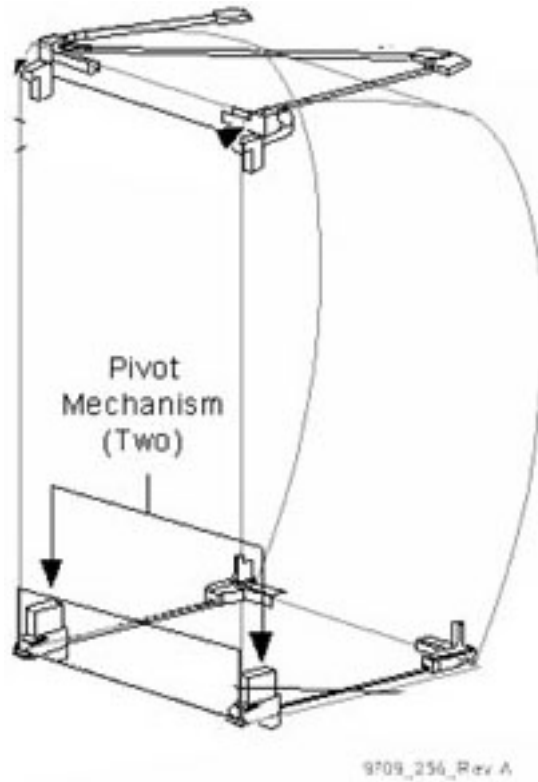
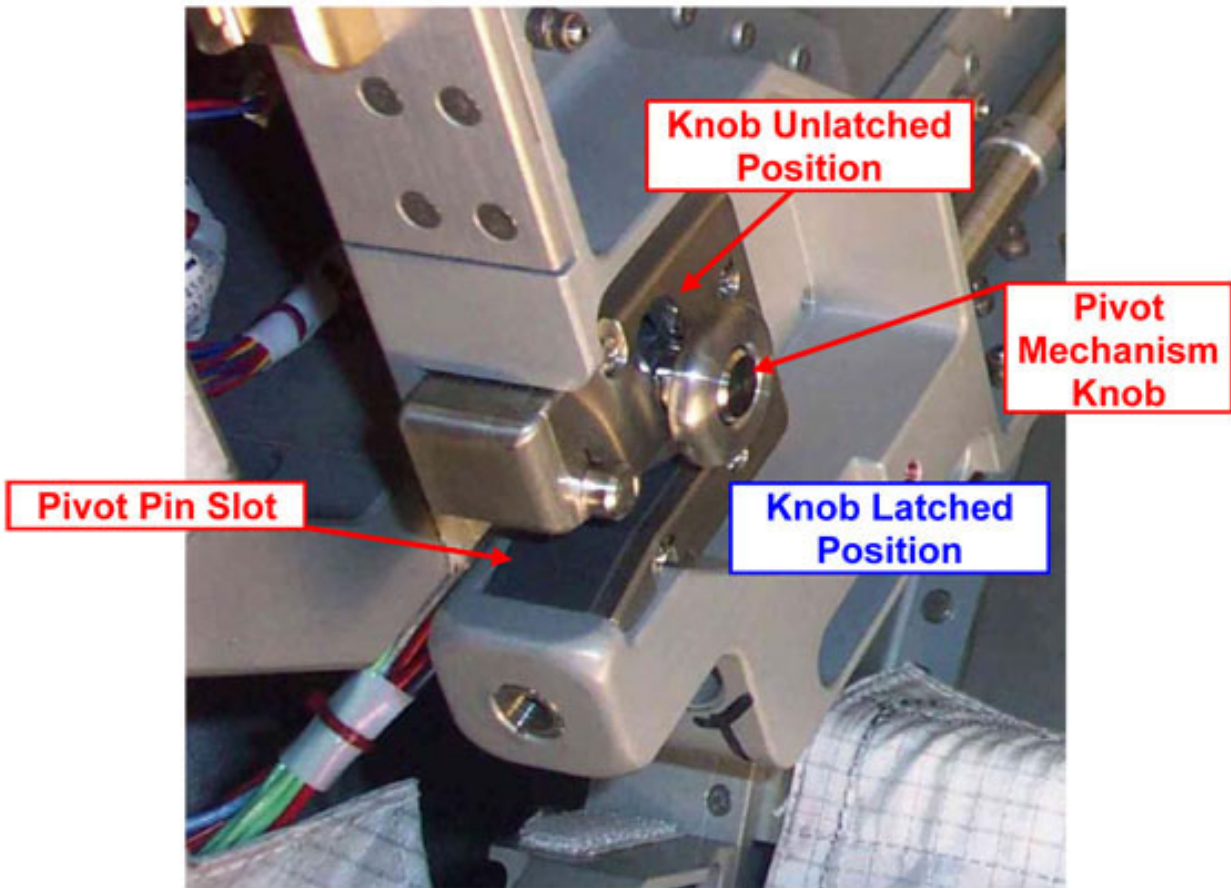

Figure 1. ISPR Pivot Mechanism location identification.
Figure 2. Close view on one ISPR Pivot Mechanism (Left).
- 1.1 Loosen then tighten in unlatched, up position both right and left ISPR Pivot Mechanism Knobs (one full turn). Refer to Figure 1 and Figure 2.
Refer to Figures 2, 5, and 6.